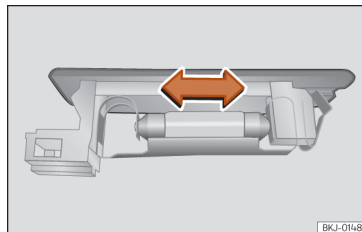

Fig. 63 Boot light.
- Press the bulb sideways and remove it from its housing »» **Fig. 63**.